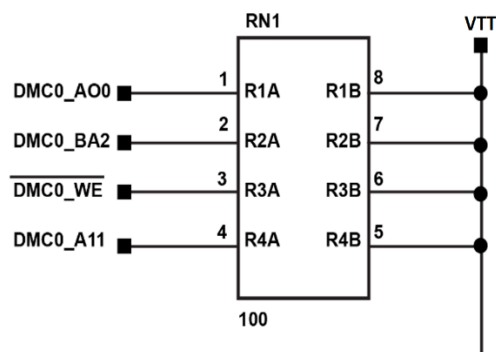

Figure 1. VTT Termination for Address and Command Line
- Implement VTT termination for the address and command lines as shown in Figure 1. VTT Termination for Address and Command Line, taken from *EV-21593 SOM® Schematic, Rev A, April 2020. Analog Devices, Inc.* [2]